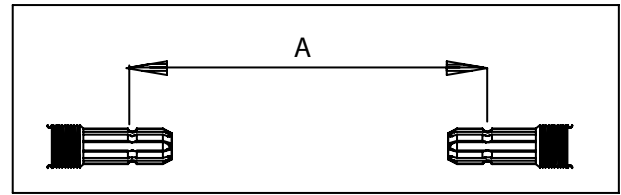

Fig. 8. Measure distance A when the distance between the splined shafts is at its shortest.
2. Lift the machine with the hitch so that the distance between the splined shafts is at its shortest. Fig. 8.
3. First, cut the thicker shield to the correct length (1). Remember the 20-40 mm clearance. Then, cut a similar length from the profile tube (2). Shorten the other PTO shaft half similarly. Remove burrs using a file.